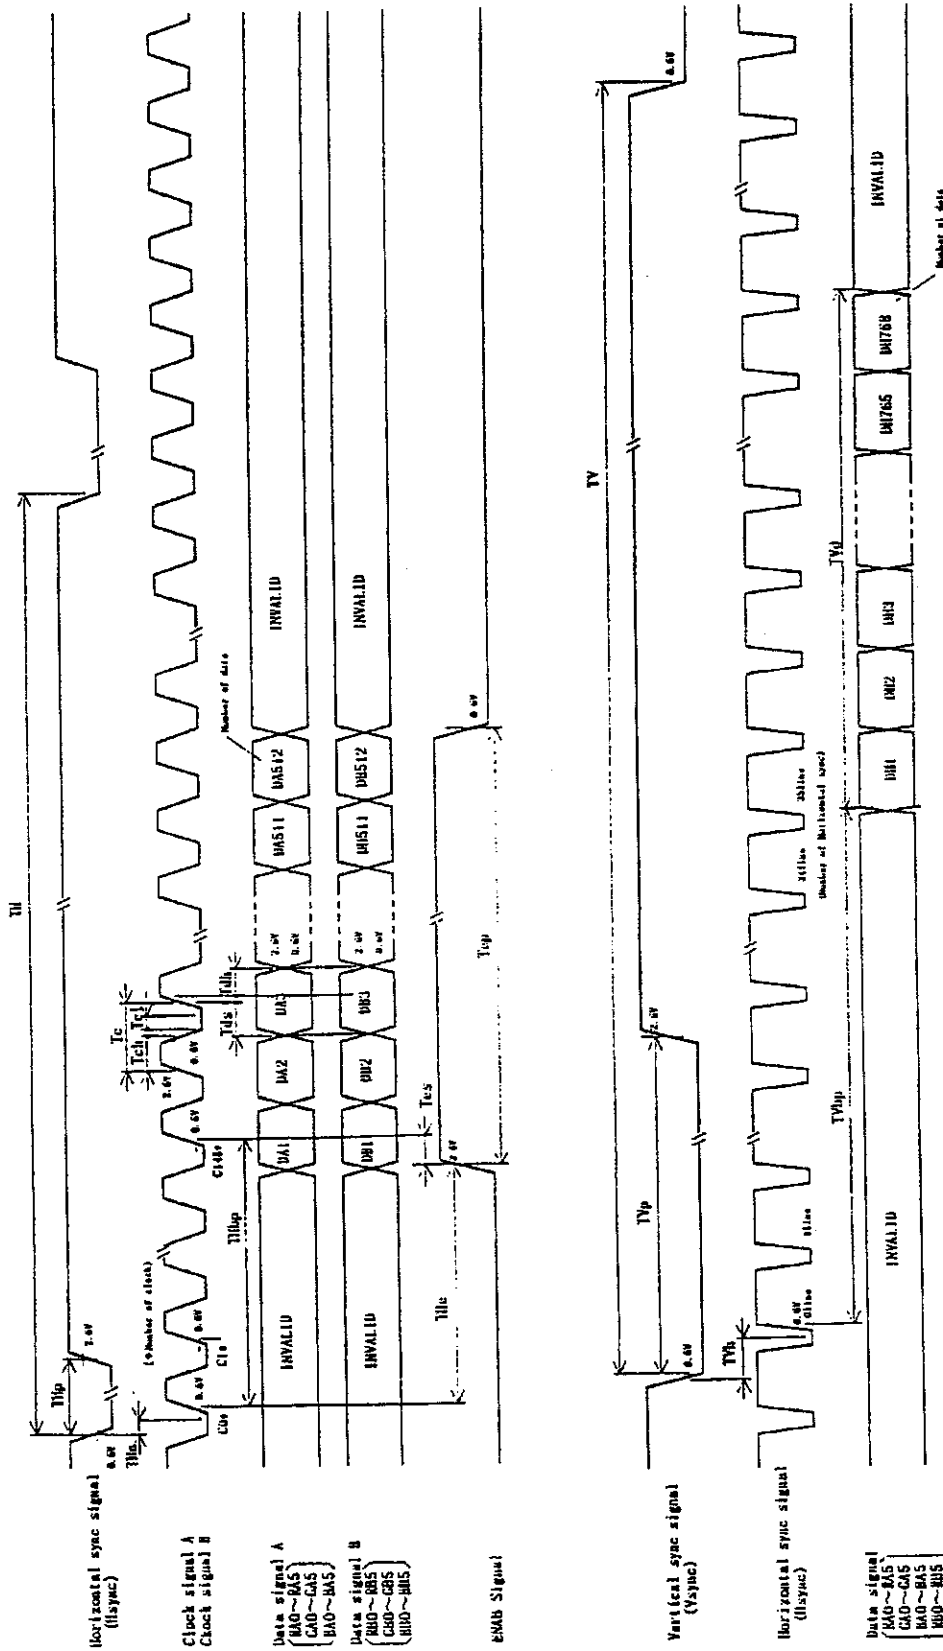

Fig.2 Input Signal Waveforms (H-V Mode)
Timing diagrams of input signal are shown in Fig.2.
- ② When ENAB is fixed "Low", the display starts from the data of C148(clock) as shown in Fig.2.
The vertical display start position is the 35th line from the falling edge of Vsync (cf. Fig.2)